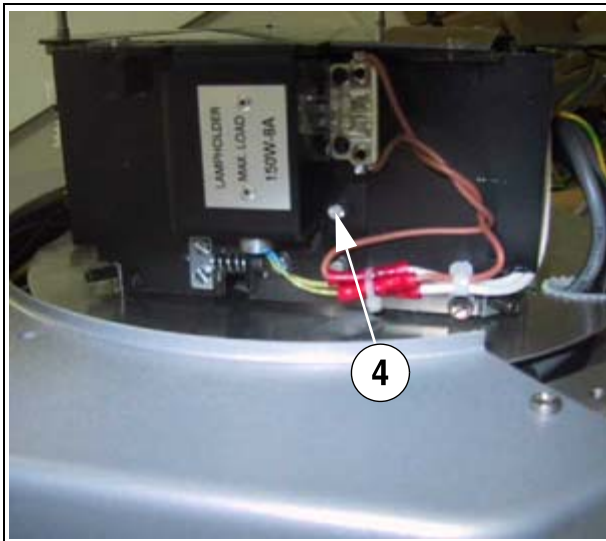

Fig. 88: Lamp shield
- Remove the protective cover from the lamp (4/Fig. 88 / p. 91).